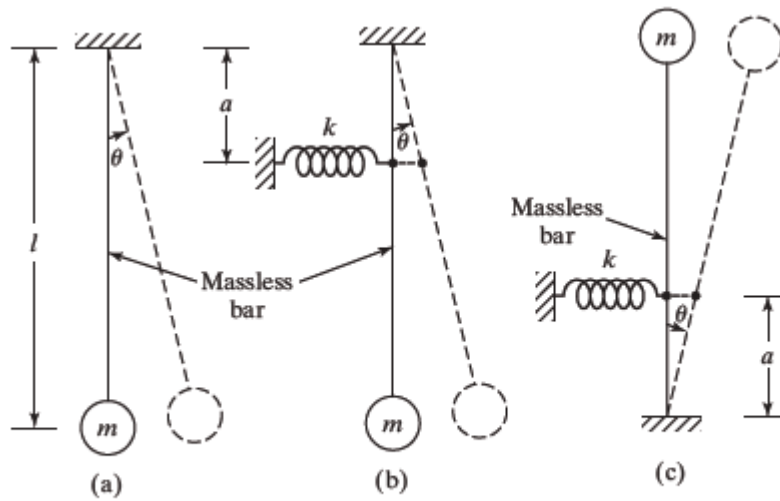

FIGURE 2.91
- 2.67 A mass m is attached at the end of a bar of negligible mass and is made to vibrate in three different configurations, as indicated in Fig. 2.91. Find the configuration corresponding to the highest natural frequency.